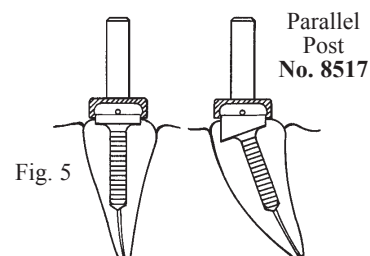

Fig. 5
- Using the Locator Parallel Post (Zest order No. 8517) as a handle, place a 0 Degree Female into each of the completed preparations to visually approve the proper fit and the parallel alignment of the multiple attachments. If the alignment of any of the attachments can be improved, select the most suitable angled female (10 or 20 degrees) and rotate it in the preparation to determine its position of optimum parallelism. (Fig.5)